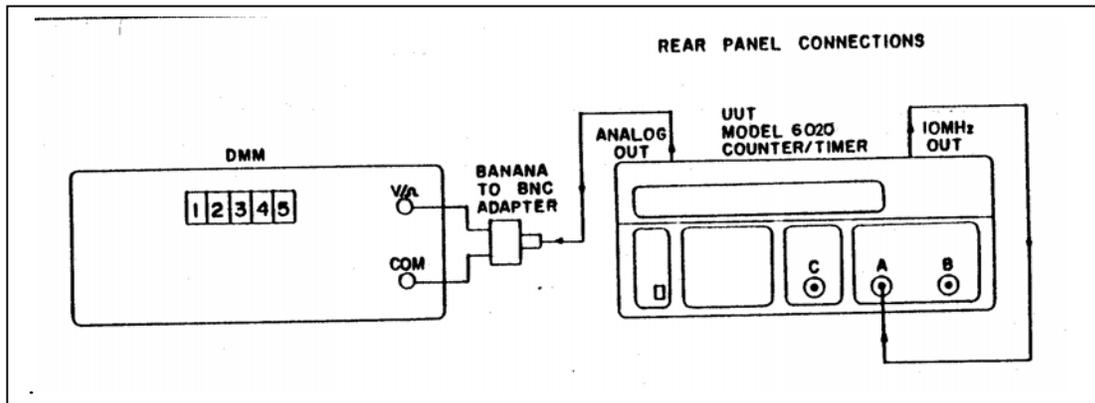

Figure 5-15. Analog Output Test Set-up.
1. Connect the test equipment as described in Figure 5-15.